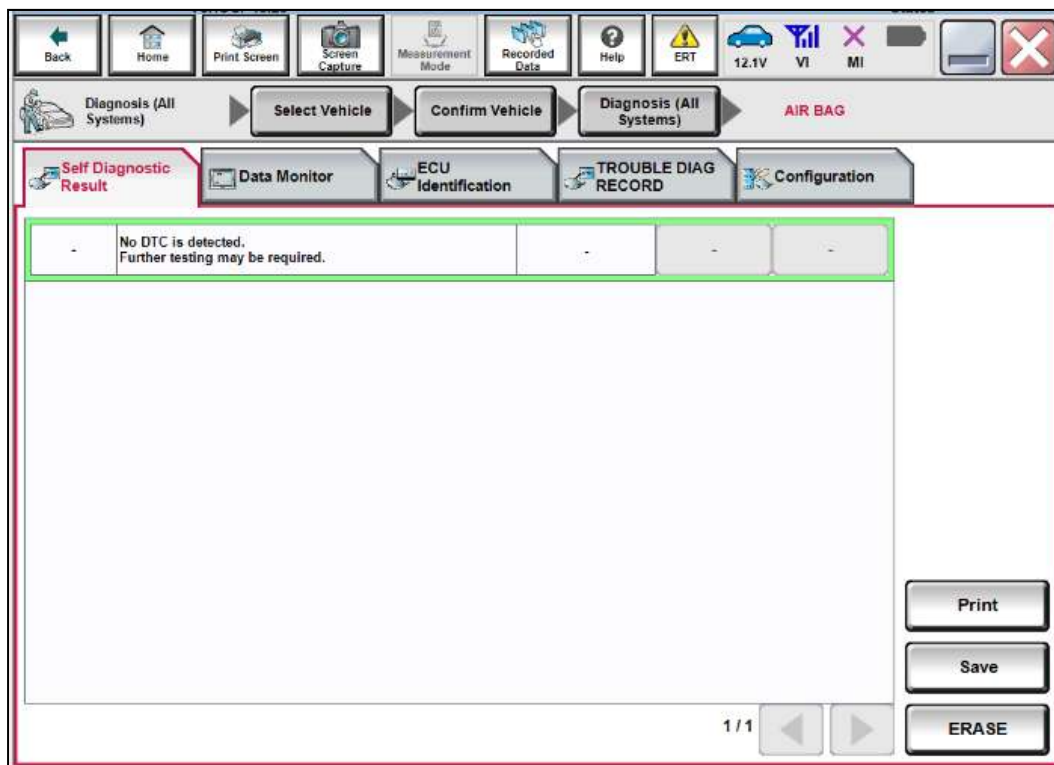

Figure 16
- After selecting Close, the screen in Figure 16 should display (the DTC is erased).